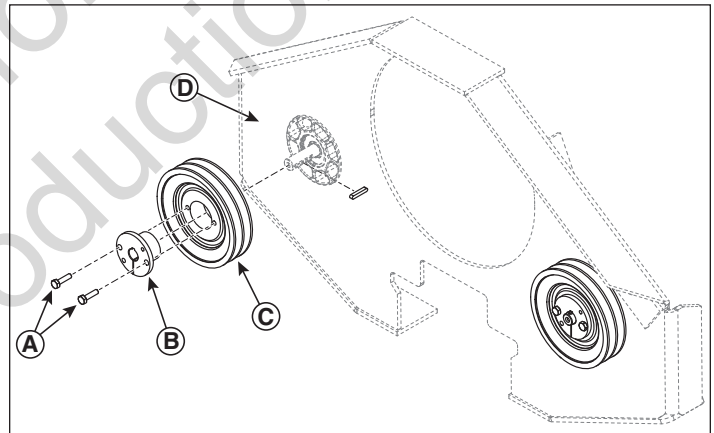

Figure 1. Checking the Torque of the Pulley Hardware
4. Using a 7/16" socket and a torque wrench, set the wrench to 120 in. lbs. (13.5 Nm) and check the torque of the two 1-4" bolts (**A, Figure 1**) on both tapered hub bushings (**B**) that secure the hydraulic pump drive pulleys (**C**).